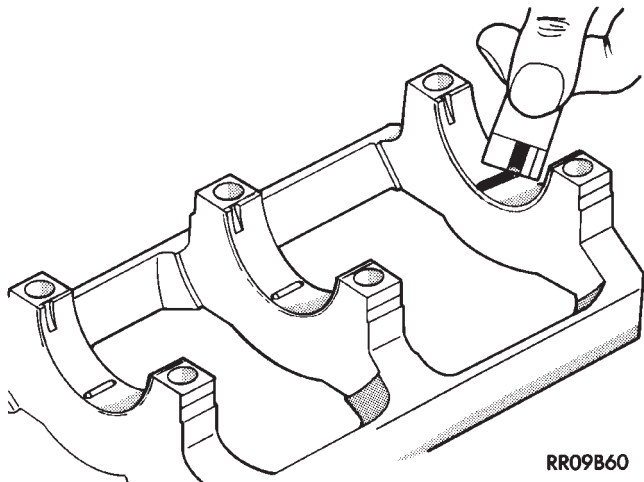

Fig. 19 Measuring Clearance
- (5) Carefully remove the bearing cap and measure the width of the plastigage at the widest part using the scale on the plastigage package (Fig. 19). Refer to specifications (Fig. 17) for proper clearance. Also see Measuring Main and Connecting Rod Bearing Clearances in Standard Service Procedures.